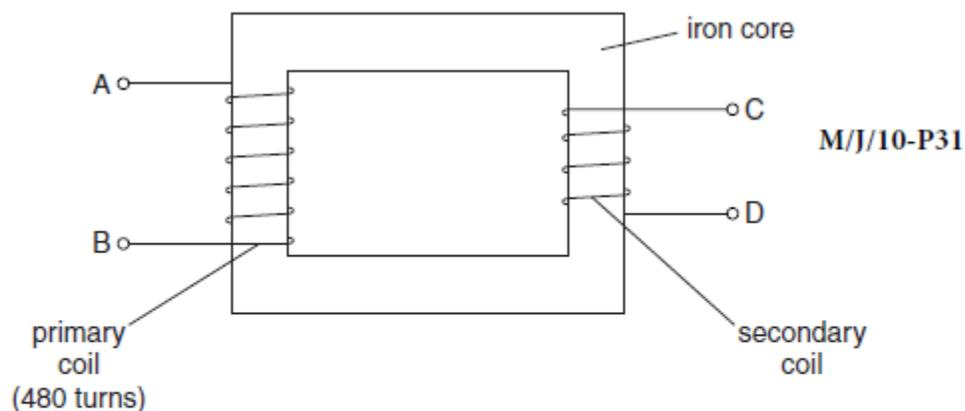

Fig. 8.1
- 1** 8 (a) The transformer in Fig. 8.1 is used to convert 240V a.c. to 6V a.c.